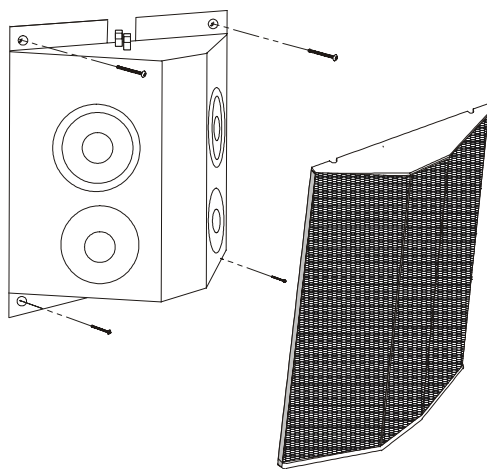

Figure 3
1. Remove the front grille from the HT-3 by gently pulling it forward. Refer to figure 3.